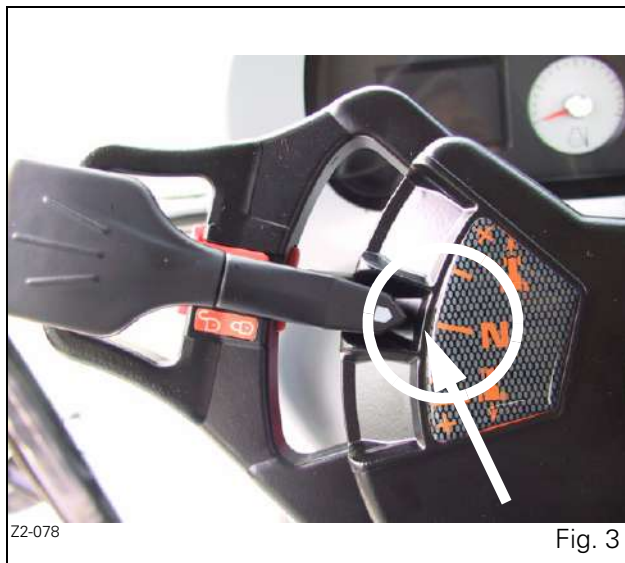

Fig. 3
3. The left-hand lever (PowerShuttle) must be in neutral position (Fig. 3). Start the engine and release the clutch pedal.